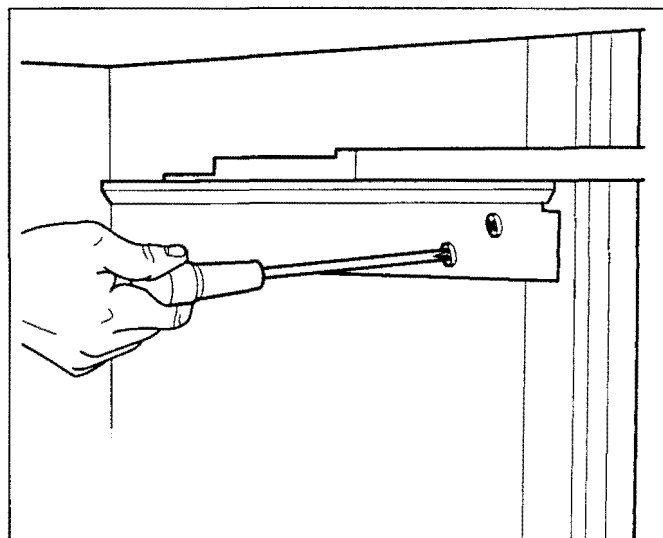

Figure 2-21. Drawer Slides
3. Detach all four drawer slides by removing four mounting screws (Figure 2-21).
1. Remove both drawer assemblies. Now detach all four drawer slides by removing four mounting screws (Figure 2-21).
4. Detach all four drawer slides by extracting four mounting screws (Figure 2-21).